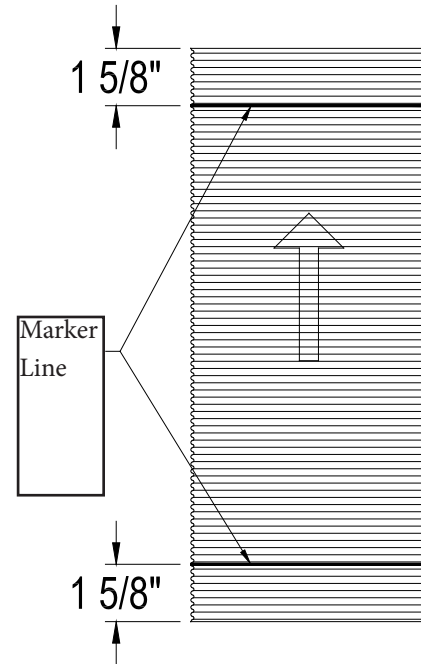

Figure 16 - DuraSeal Flex marker line
1.1. If cutting the liner on the field is required, make sure the cut is square. Make a marker line on both ends of the liner at 1 5/8" from each end. That mark will act as a reference point when the adapters are fully seated onto the flex liner. (Figure 16).